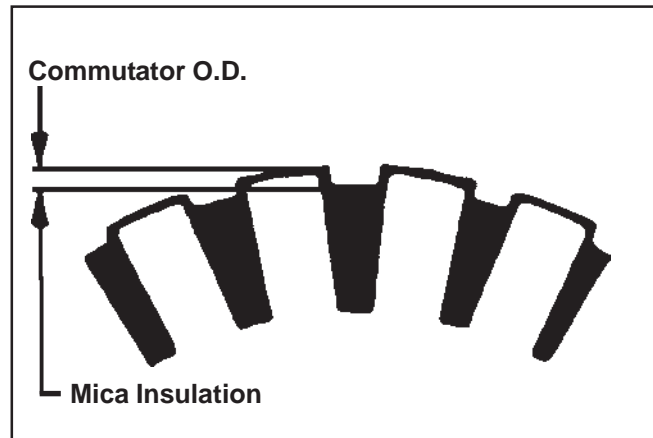

Figure 8-23. Commutator Mica Inspection.
- Clean and inspect the commutator (outer surface). The mica insulation of the commutator must be lower than the O.D. surface (undercut) to ensure proper operation of the commutator. See Figure 8-23.